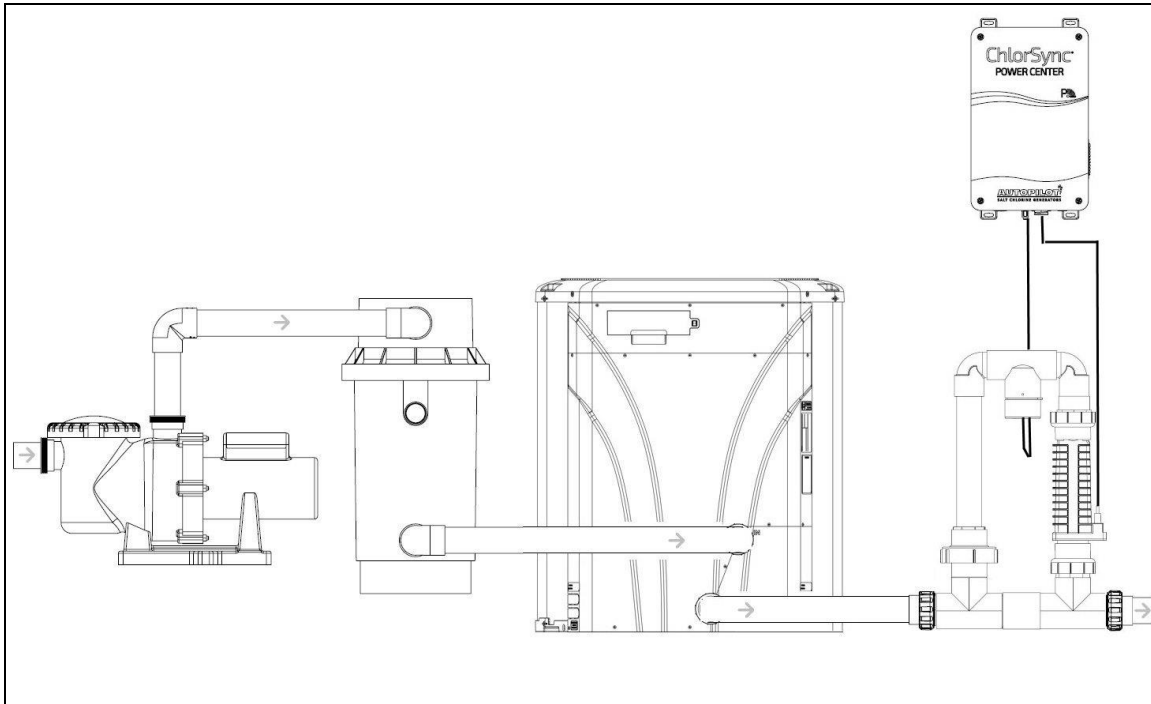

Figure 1
- Standard manifold installation is shown in **Figure 1**.